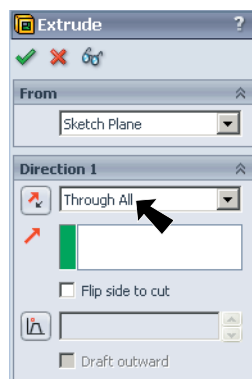
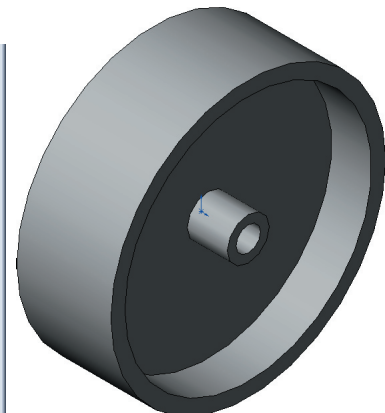

Fig. 9
Fig. 10
Step 10. Set **End Condition** to **Through All** in the Property Manager and click OK , **Fig. 9** and **Fig. 10**.